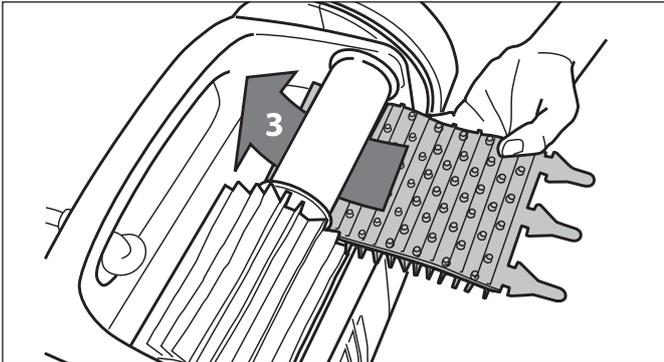

Figure 32. Install the New Brush
3. To install a new brush matt, position the new brush matt on the roller with the bristles facing downwards (Figure 32).